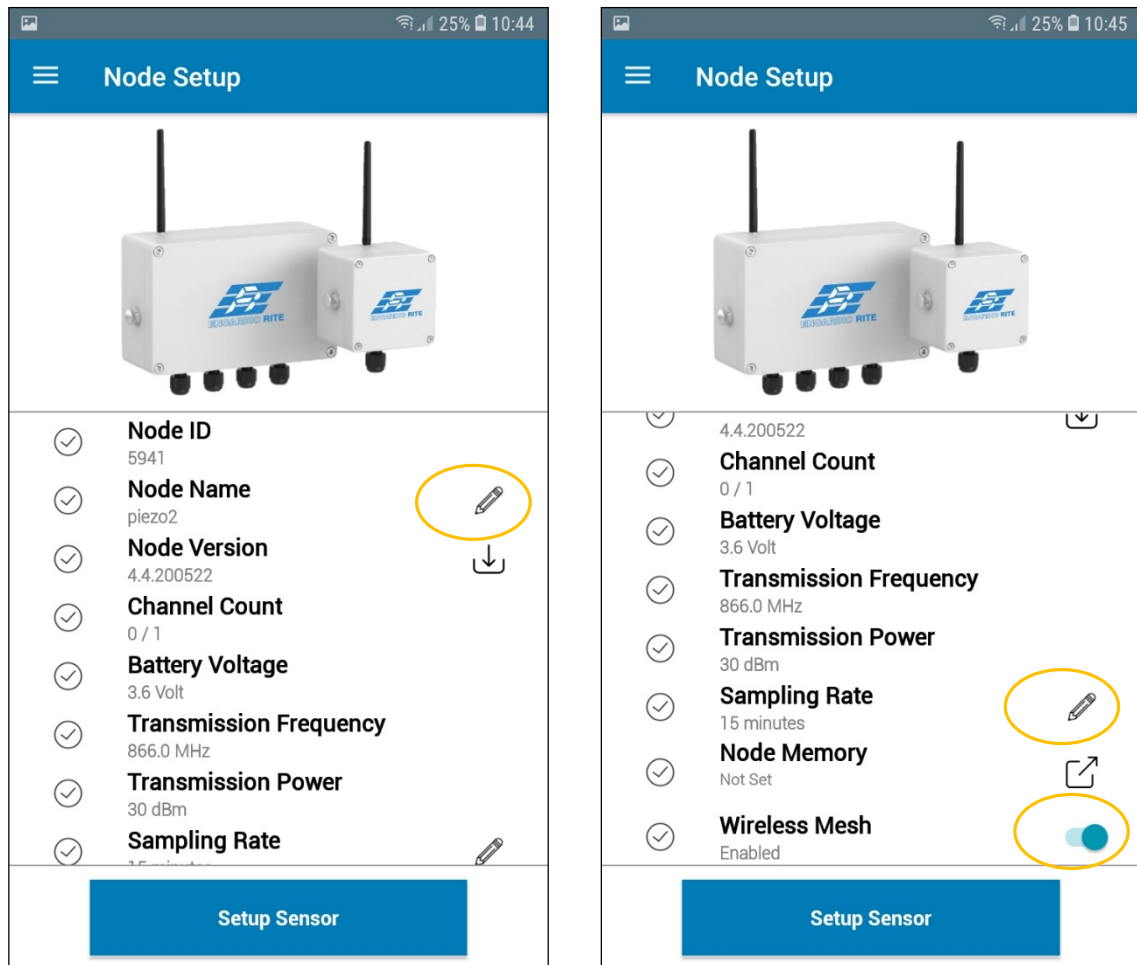

Figure 5-6
8. Once connection is done by clicking on 'Pair Node', the app will show connected node information on "Node Setup" screen as shown in figure 5-6.
NOTE: **Optional Step:** If "Relay" function is to be deployed, click on "Wireless Mesh" toggle button to enable i.e. in case the Node needs to be used as a relay node (as shown in right side screenshot in figure 5-6).
10. Once done, click on 'Setup Sensor' button to configure the sensor settings (as shown in Node Setup screen in figure 5-6).